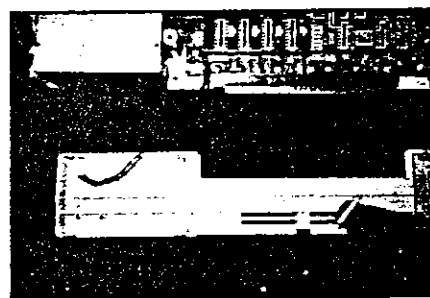

**Fig. 3-7. Shield Screw/Tab Locations**
**3.4.3** Twist the 2 shield tabs at the right side towards the rear and the rear left corner. The positions are indicated in Fig. 3-7 with a short line.
**3.4.4** As shown in Fig. 3-7, install the following screws: